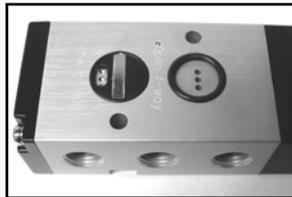

FIGURE 1
2. Please note that although it is hard to depict in the photos, there are clear markings on the valve that help position the selector gasket (left gasket in picture) to achieve the desired valve function. Should a four way function be desired the selector gasket is merely rotated 180 degrees. (Figure 1 & 2). Fig 1 shows 3 way function (spring return actuators) and Fig 2 shows 4 way function (double acting actuators)